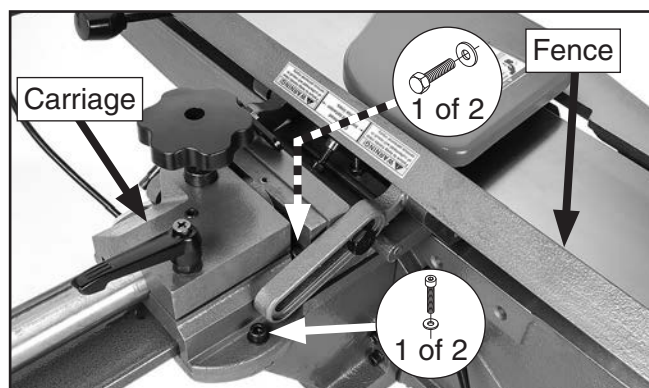

Figure 20. Carriage and fence installed.
13. Install carriage with (2) pre-installed cap screws and flat washers (see **Figure 20**).
14. Attach fence to carriage with (2) pre-installed hex bolts and flat washers (see **Figure 20**).